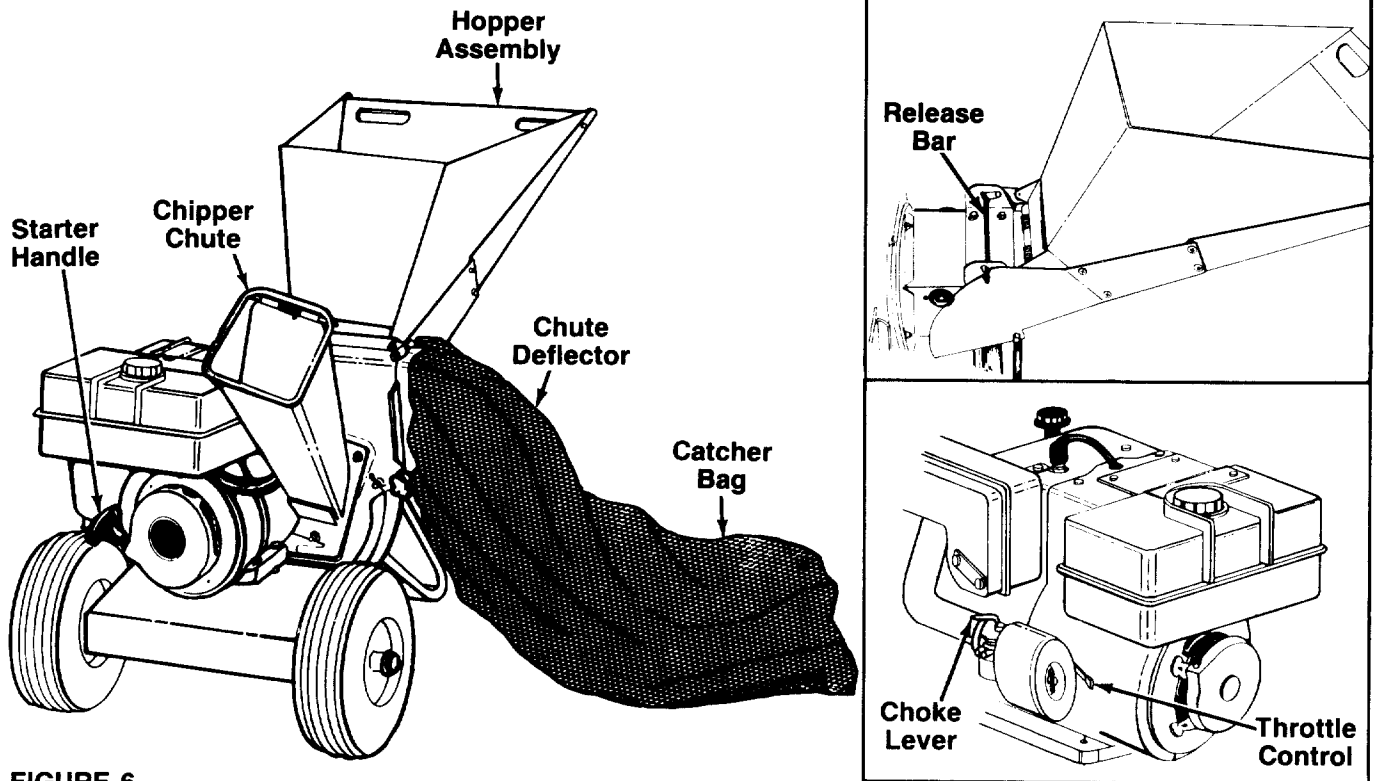

FIGURE 6.
**NOTE:** If desired, lift up on the release bar (see figure 6, inset) to raise the upper guide assembly so you can attach the hopper assembly while standing instead of kneeling.
### OPERATING CONTROLS (See figure 6)